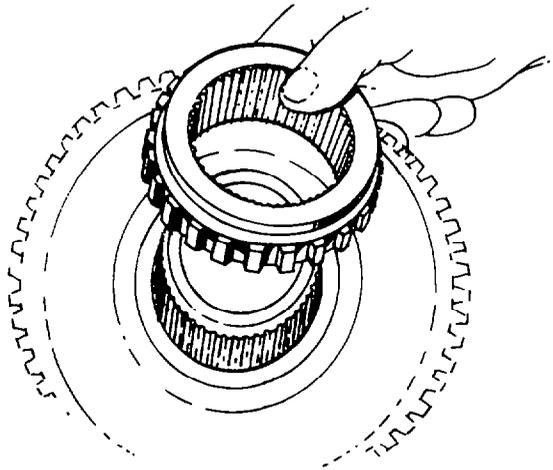

Fig. 181 — Removing First Gear Sliding Clutch
- w. Remove the mainshaft sliding clutches and gears with thrust washers from the case (see figs. 181 and 182).